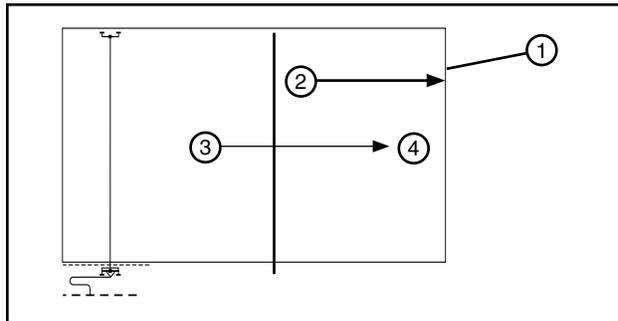

Figure 38-1 1. Field
1. The percentage timer is set at the desired application rate and the system is started at one end of the field and run wet (irrigating) to the other end of the field. See Figure 38-1.
2. The system is stopped until the field has dried sufficiently before running the system back to the original end of the field. See Figure 38-1.